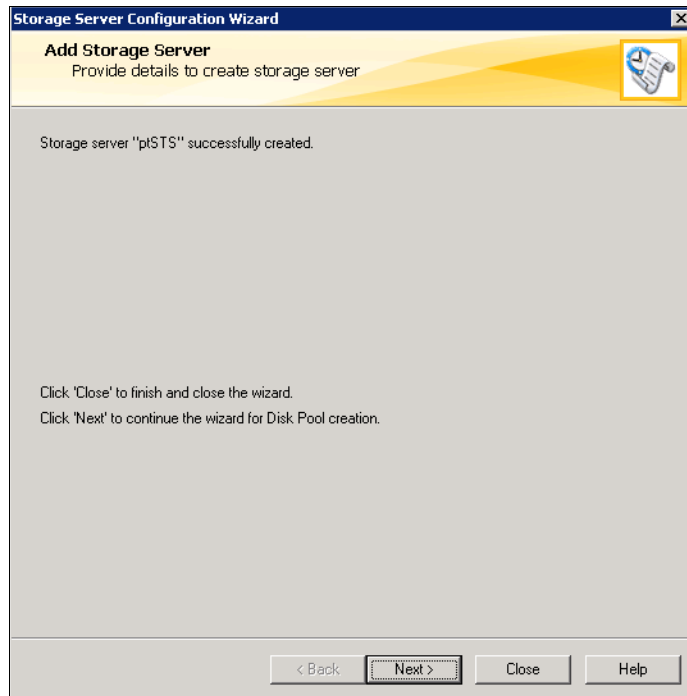

Figure 9-23 Complete the creation of STS
7. Complete the creation of STS by clicking **Next** (Figure 9-23).